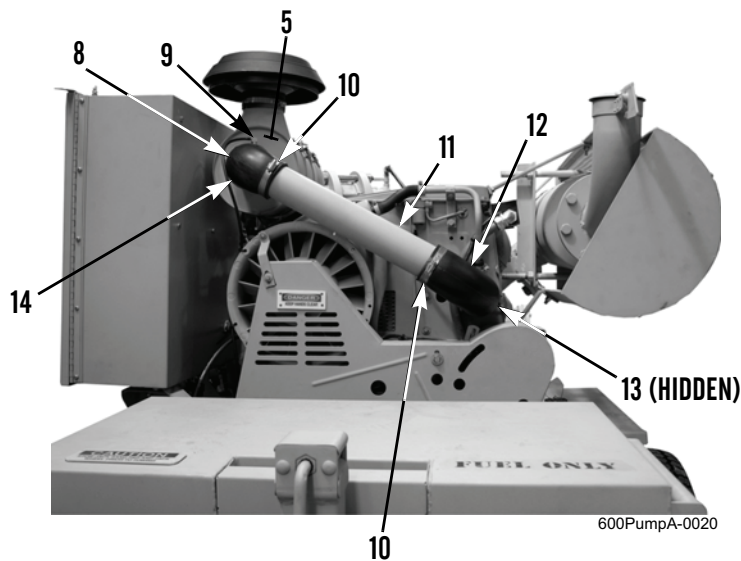

Figure 7. Air Cleaner Housing Assembly - Front of Engine.
5. If removed, install fitting (Figure 7, Item 9) on air cleaner housing (Figure 7, Item 5).
6. Install rubber elbow (Figure 7, Item 12) and two clamps (Figure 7, Item 10) on tube (Figure 7, Item 11) and turbocharger intake (Figure 7, Item 13).
7. Install rubber elbow (Figure 7, Item 14) and two clamps (Figure 7, Item 10) on tube (Figure 7, Item 11) and air cleaner housing (Figure 7, Item 5).
8. Connect air hose (Figure 7, Item 8) to fitting (Figure 7, Item 9) on air cleaner housing (Figure 7, Item 5).